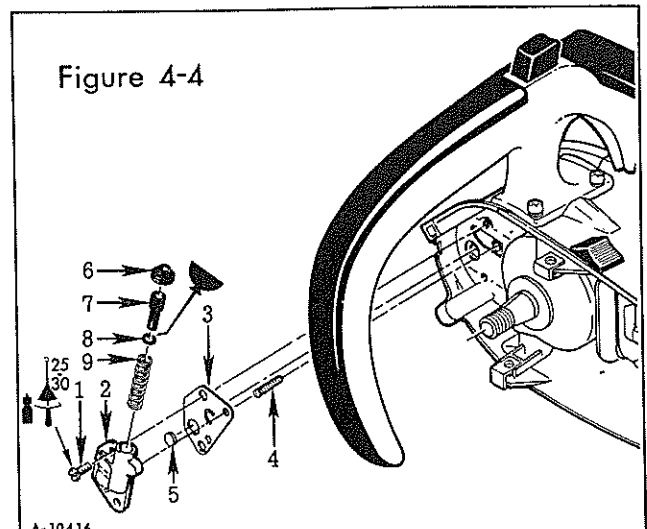

Figure 4-4
1. Remove the two screws (1, Figure 4-4) attaching